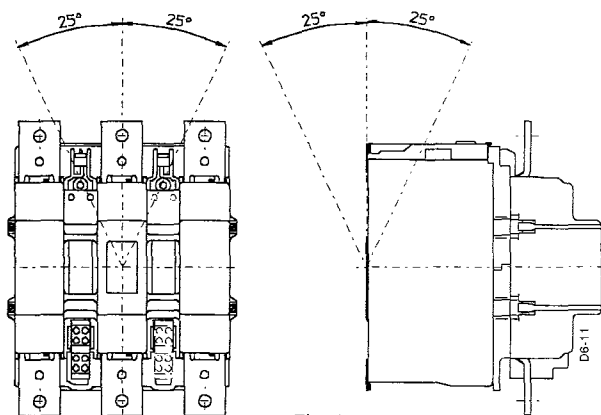

Fig. 1
**Working position is shown in figure 1.**